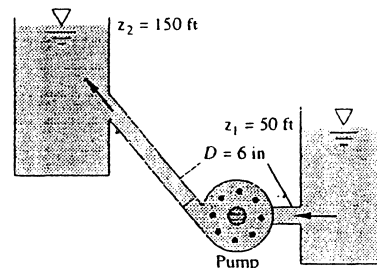

Fig. P3.141
3.141 Water at 20°C is pumped at 1500 gal/min from the lower to the upper reservoir, as in Fig. P3.141. Pipe friction losses are approximated by $h_f \approx 27V^2/(2g)$, where V is the average velocity in the pipe. If the pump is 75 percent efficient, what horsepower is needed to drive it?